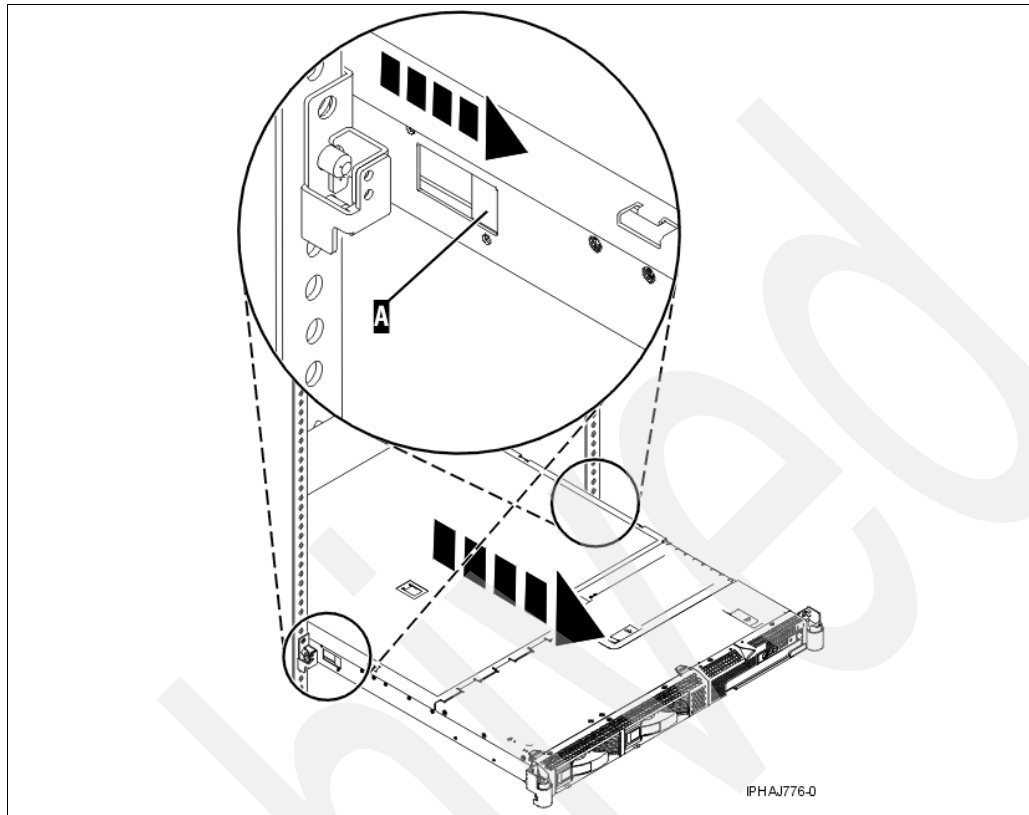

Figure 2-14 Release the p5-505 or p5-505Q out of the rack
5. Continue to release the p5-505 or p5-505Q out of the rack. Press the rail safety latches, *A*, to release the server from the system rack, as shown in Figure 2-14.